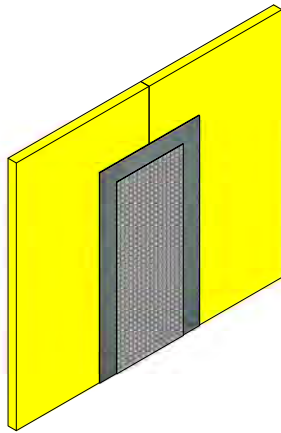

Figure 2
2. Lay the SHEATHING FABRIC into the wet SENERSHIELD-R OR SENERSHIELD-VB. (See Figure 2)